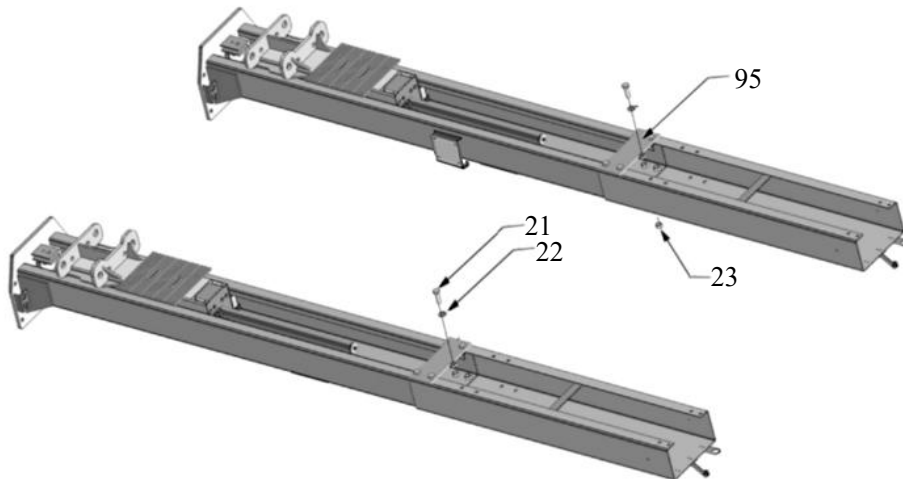

Fig. 18 High setting
1. High Setting, connecting the outer columns with the lower hole (**See Fig. 18**).